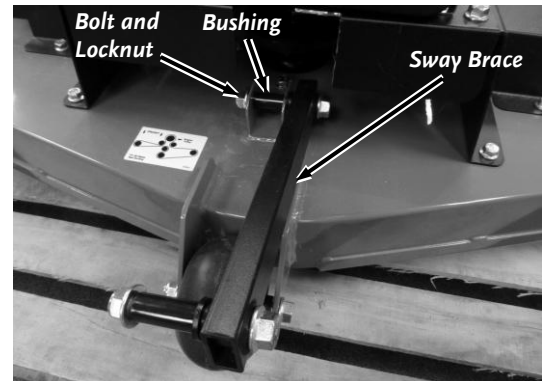

Figure 6
2. Leave the Deck Bushing in place as you remove the Bolt and Locknut (by hand) that secures the front Sway Brace to the Deck (**Figure 6**).